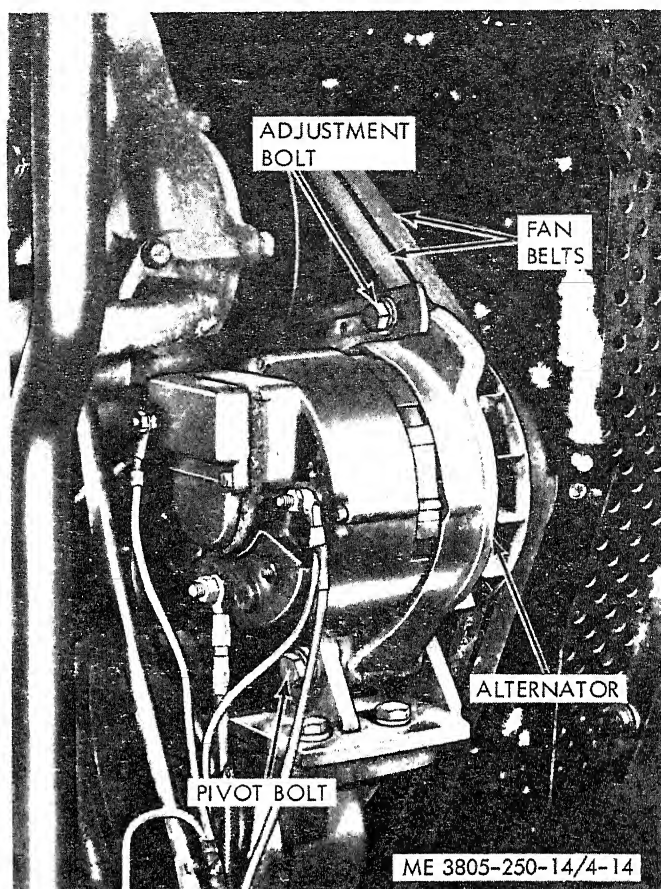

Figure 4-14. Fan belts.
*b. Replacement* (fig. 4-14).
(1) Remove the air compressor drive belt (para 4-65).
(2) Loosen the alternator pivot and adjustment bolts.
(3) Remove the belts. Slip new belts over the fan and onto the fan pulley, crankshaft pulley, and alternator pulley.
(4) Adjust the belt tension (subpara c).
(5) Install the air compressor drive belt (para 4-65).
*c. Adjustment* (fig. 4-14).
(1) Apply a pressure of 60 psi to a point on the belts midway between the alternator and fan pulleys. Deflection should be  $\frac{1}{2}$  inch.
(2) To increase tension, loosen the alternator